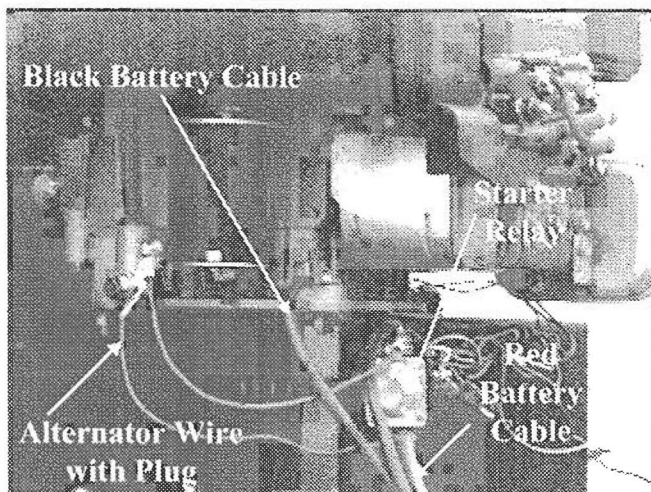

Figure 23
7. Connect the alternator wire with plug and the red battery cable to the unused secondary terminal of the starter relay. See Figure 23.
9. Attach one end of the black battery cable to the spreader engine mounting flange using the existing 5/16" bolt, nut, lock washer, and supplied flat washer. See Figure 23.